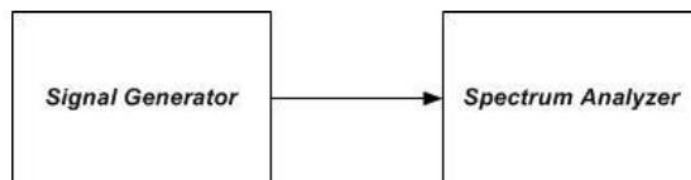

Figure 6 – Test setup for measuring characteristics of test signals used for subsequent EUT occupied bandwidth testing
- a) Connect the test equipment as shown in Figure 6 to firstly measure the characteristics of the test signals produced by the signal generator.